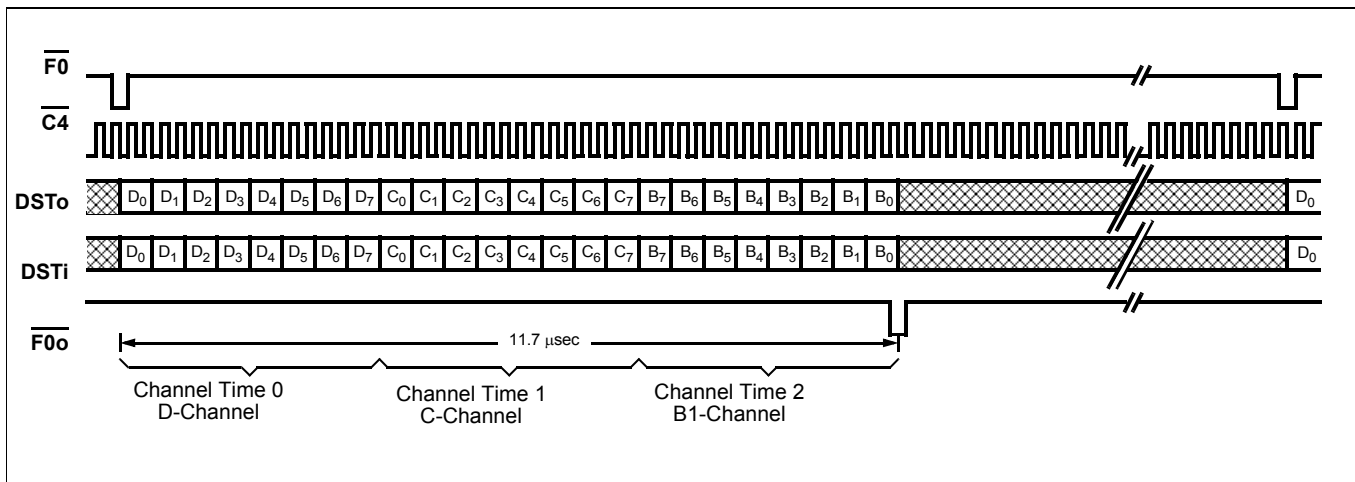
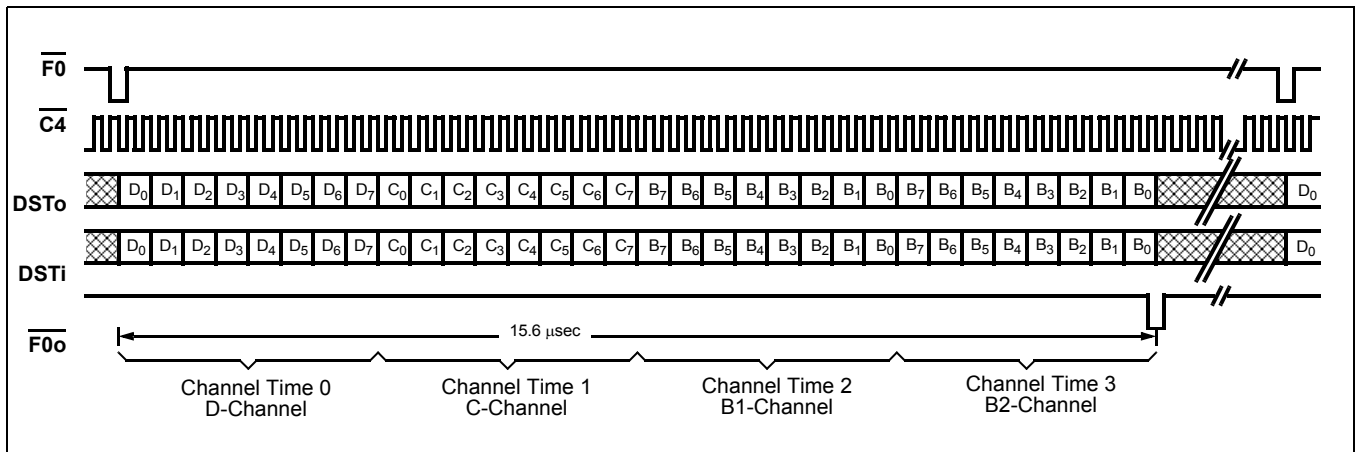

Figure 5 - DV Port - 80 kbit/s (Modes 0,4)
Figure 6 - DV Port - 160 kbit/s (Modes 0,4)
In DIGITAL NETWORK (DN) mode there are three channels transferred by the DV and CD ports. They are the B, C and D channels. The B1 and B2 channels each have a bandwidth of 64 kbit/s and are used for carrying PCM encoded voice or data. These channels are always transmitted and received through the DV port (Figure 3, Figure 4, Figure 5, and Figure 6). The C-channel, having a bandwidth of 64 kbit/s, provides a means for the system to control the DNIC and for the DNIC to pass status information back to the system. The C-channel has a Housekeeping (HK) bit which is the only bit of the C-channel transmitted and received on the line. The 2B+D channel bits and the HK bit are double-buffered. The D-channel can be transmitted or received on the line with either an 8, 16 or 64 kbit/s bandwidth depending on the DNIC's mode of operation. Both the HK bit and the D-channel can be used for end-to-end signalling or low speed data transfer. In DUAL port mode the C and D channels are accessed via the CD port (Figure 7) while in SINGL port mode they are transferred through the DV port (Figure 5 and Figure 6) along with the B1 and B2 channels.
The D-channel is always passed during channel time 0 followed by the C and B1 channels in channel times 1 and 2, respectively for 80 kbit/s. See Figure 5. For 160 kbit/s the B2 channel is added and occupies channel time 3 of the DV port. See Figure 6. For all of the various configurations the bit orders are shown by the respective diagram. In MOD mode, the DV and CD ports no longer operate at 2.048 Mbits/s but are continuous serial bit streams operating at the bit rate selected of 80 or 160 kbit/s.